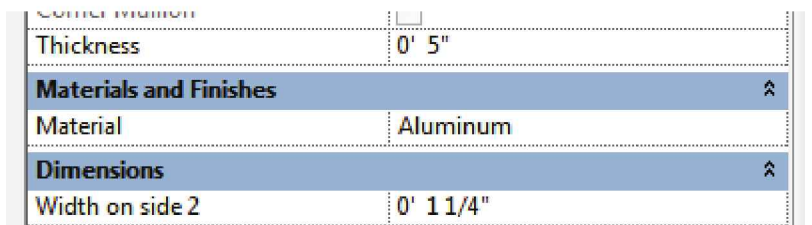

FIGURE 15-2.7 Mullion material
17. Notice the material for the mullion is set to **Aluminum** (Figure 15-2.7).